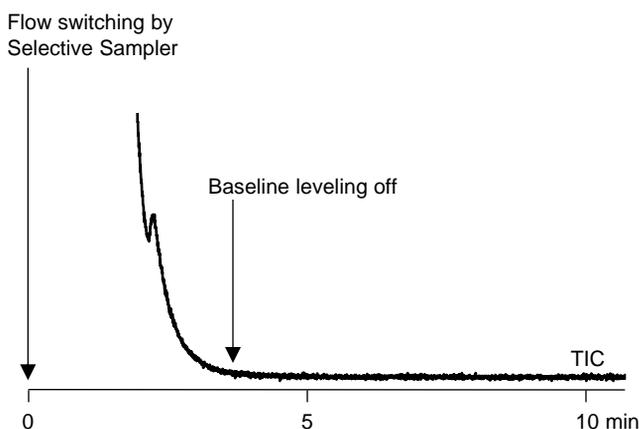
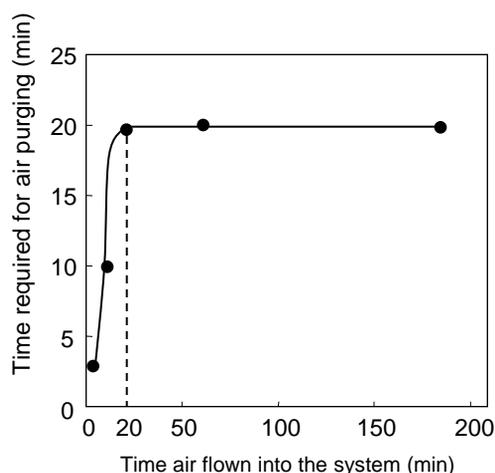

Fig. 1 Baseline shift after air was run through the column
Fig. 2 Relationship between air flow time and time required for system purging
**[Results]** After air was run through the separation column for a minute, the gas flow was switched by using the selective sampler, and He gas was allowed to flow into the separation column and then into the MS ion source. Fig. 1 shows a TIC plot against the time for purging. Initially air existed in the system, therefore a elevated baseline was observed. As the air purging progressed, the baseline is gradually lowered and in about 3 min it was leveled off. This result showed GC/MS analysis must be started after 3 min of purging or more, if air is allowed to flow into the system for 1 min. In a similar manner, the relation between the air flow time and required purging time was examined and the result obtained is shown in Fig. 2. Up until 20 min of air flow time, the air flow time and purging time were in monotonously increasing relationship, however, beyond 20 min, it was found that the required purging time stayed constant at 20 min.